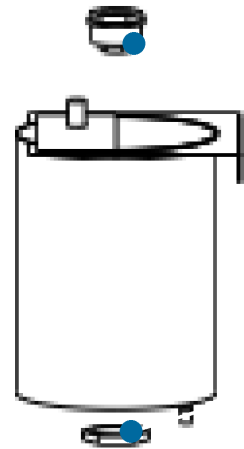

Figure 8 · Loosen the nut and replace the LED UV lamp
4. Loosen the nut of the LED UV lamp from the underside with an adjustable spanner, disconnect the lamp connector and remove the old LED UV lamp (Figure 8).